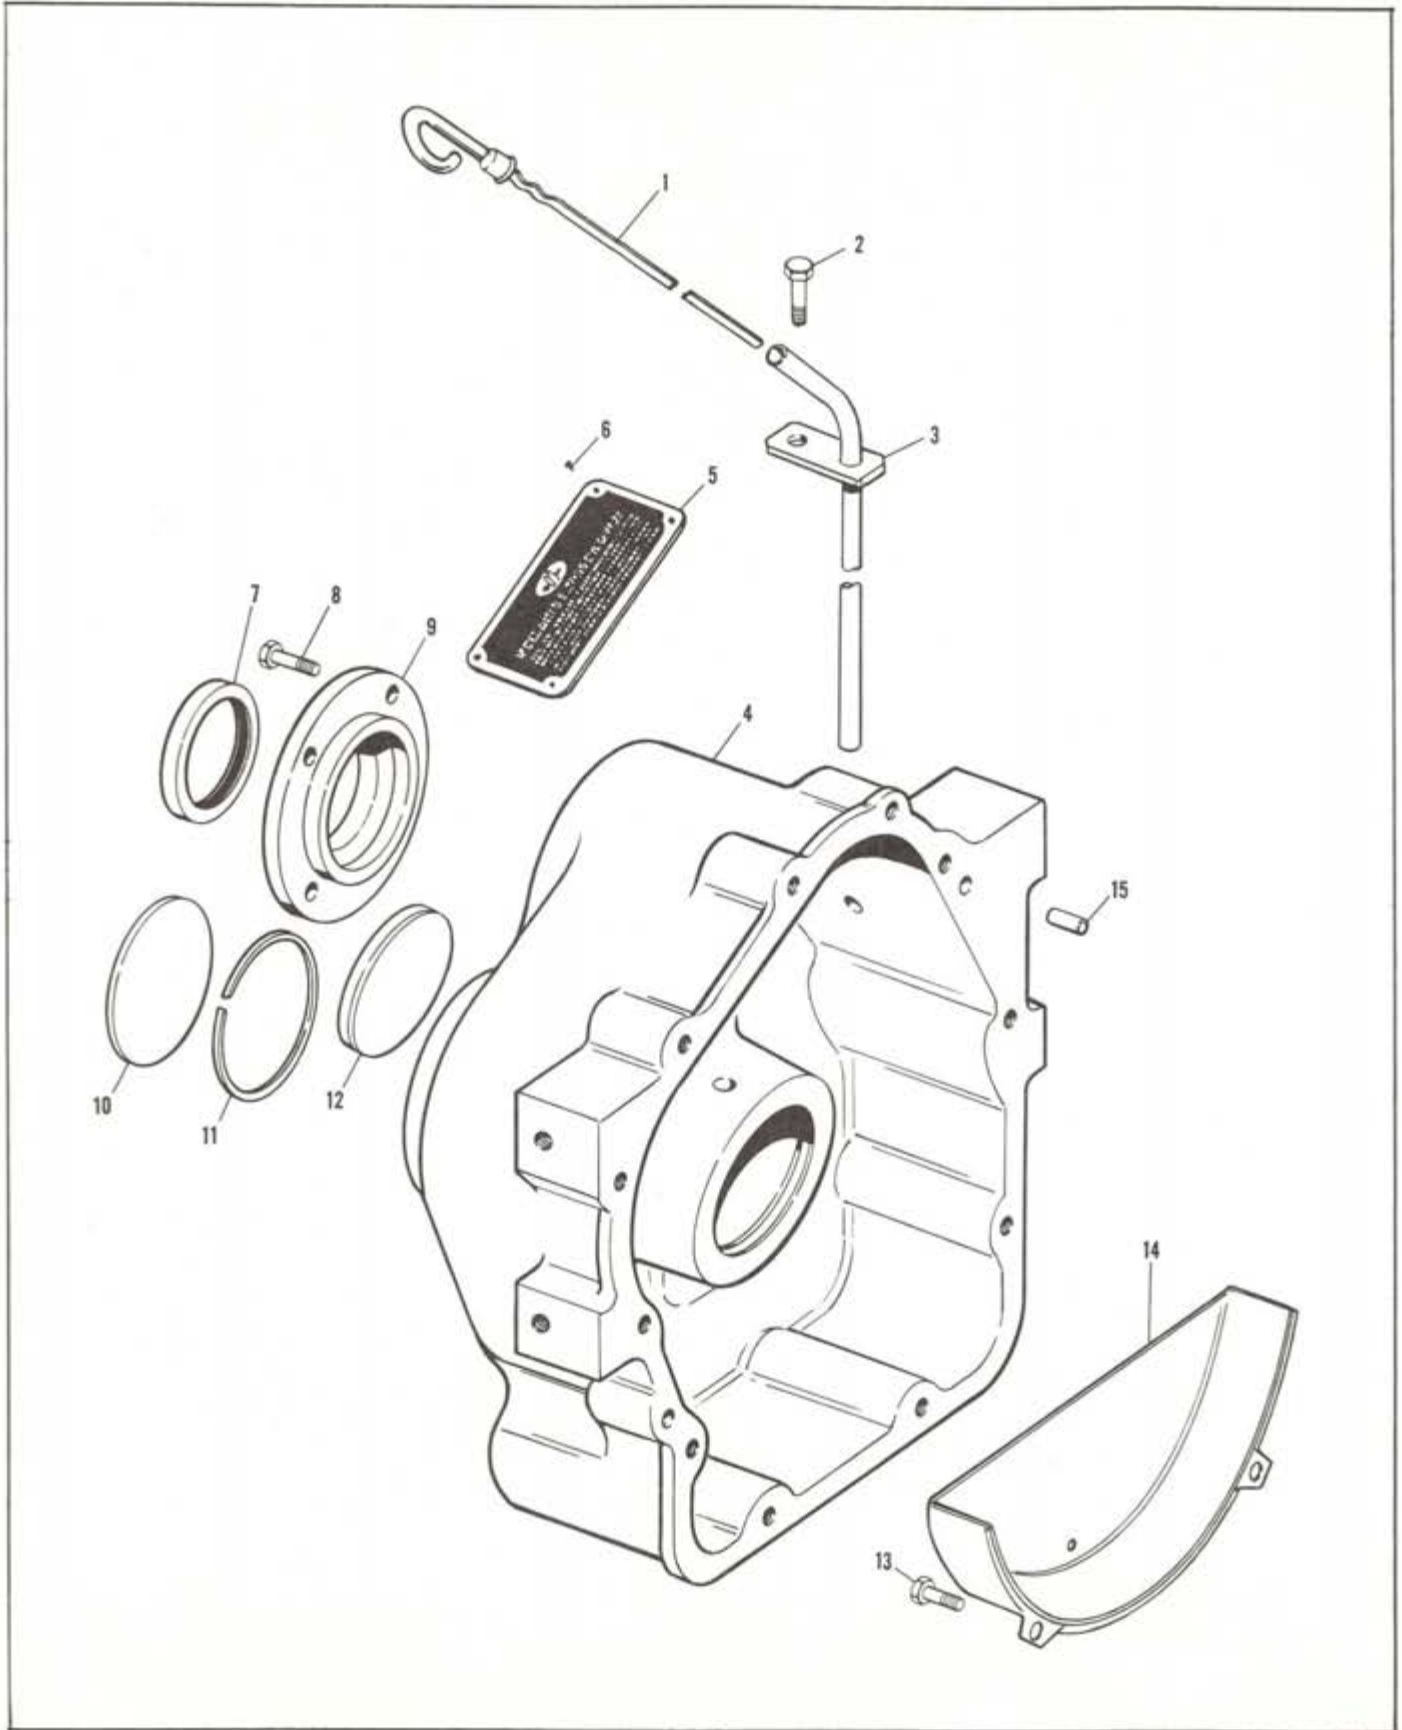

Figure 47. Main (Front) Housing and Related Parts.
After the output shaft end play has been adjusted, install the expansion plug. Apply plastic gasket (See page 30) to the bore area which contacts the expansion plug (cupshaped) (fig. 47, 12) and install the plug.
B. Oil Level Gauge Tube. Install the oil level gauge tube (fig. 47, 3) into the main housing (4). Secure the tube in the housing with the hex-head cap screw (2) (5/16-18 x 5/8). Tighten the tube screw (2) to 15-17 lbs.-ft. torque. Install the oil level gauge (1) into its tube (3).
E. Name and Instruction Plate. Install and secure the name and instruction plate (fig. 47, 5) to the top of the main housing with four drive screws (6). (normally not removed).
A. Input Shaft. Check the runout between the input shaft and the O.D. surface or pilot of the front bearing retainer (fig. 47, 9). Maximum of 0.003 inch total indicator reading.